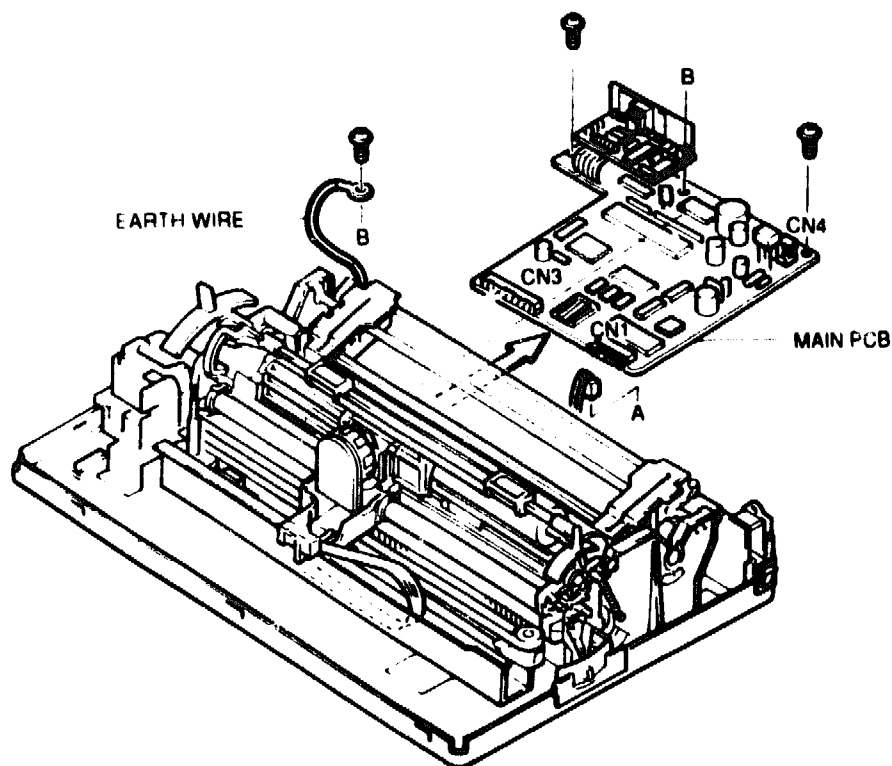

Figure 6-6 Main PCB kit
7. Remove the three Main PCB kit retaining screws shown in Figure 6-6.